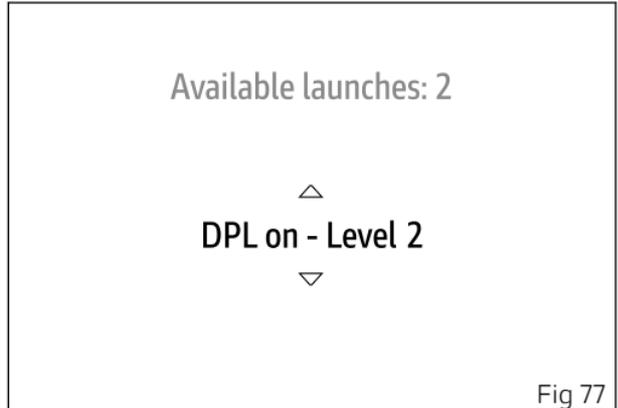

Fig 77
The screen for selecting the level for the assisted start (Fig 77) is displayed. Use buttons (1) and (2) to select the desired level (1, 2, 3) or the "Exit" item. Press the ENTER button (3) for 2 seconds to confirm the selected level.